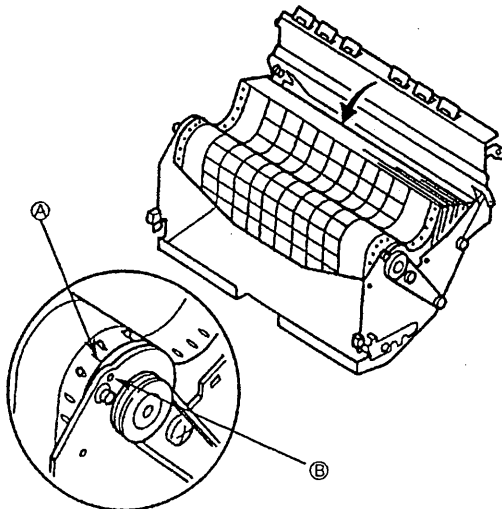

Figure 6.1.5
- 6) To engage the chart drive holes with the sprockets correctly, install the chart paper so that the mark "." [A in Figure 6.1.5] appearing every 5 cm meets a groove [B in Figure 6.1.5].